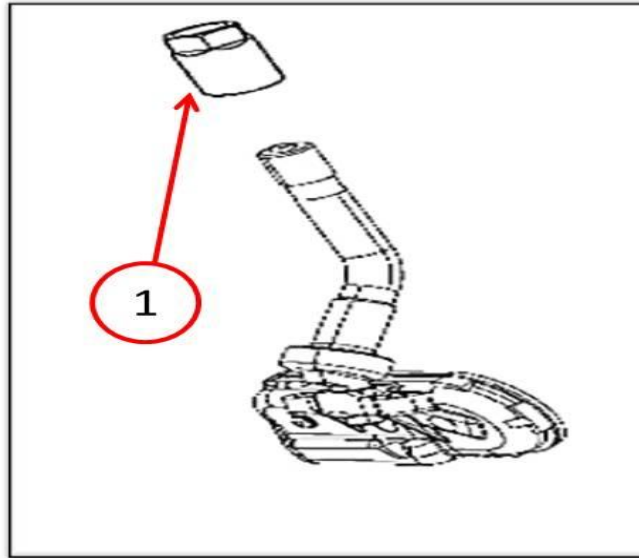

Fig. 2 Steel Valve Stem and Retaining Nut
21. Install and tighten new valve stem retainer, tighten to 12 N·m (106 in. lbs.) (Fig. 2).